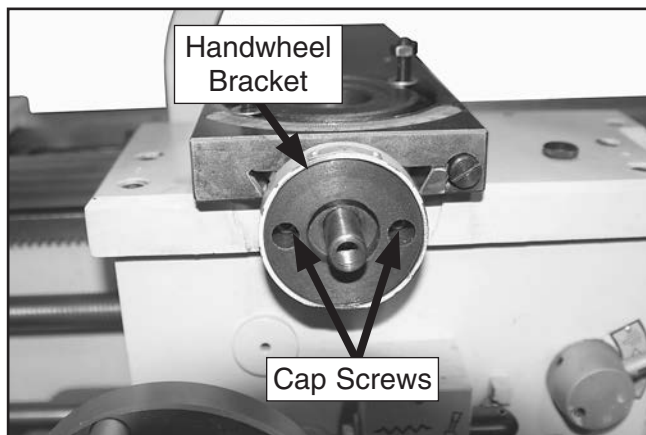

Figure 8. Handwheel bracket cap screw locations.
8. Slide the handwheel and graduated dial assembly off the leadscrew, then remove the two cap screws that secure the handwheel bracket to the cross slide (see **Figure 8**).